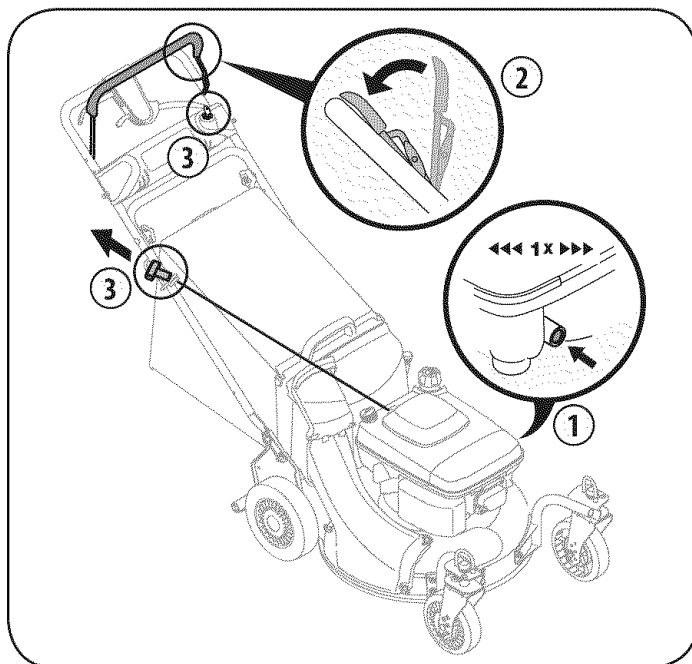

Figure 10
3. Push primer button once. Do not prime on hot days or to restart a warm engine after a short shutdown. See Figure 10.
4. Standing behind the mower, depress the blade control and hold it against the upper handle. See Figure 10.